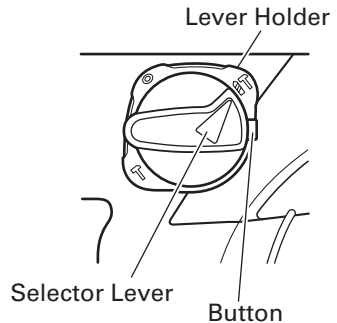

Fig. 6
(1) Switching to “rotation + hammering”
- (b) Align ▲ of the selector lever and **IT** of the lever holder as illustrated in Fig. 6.